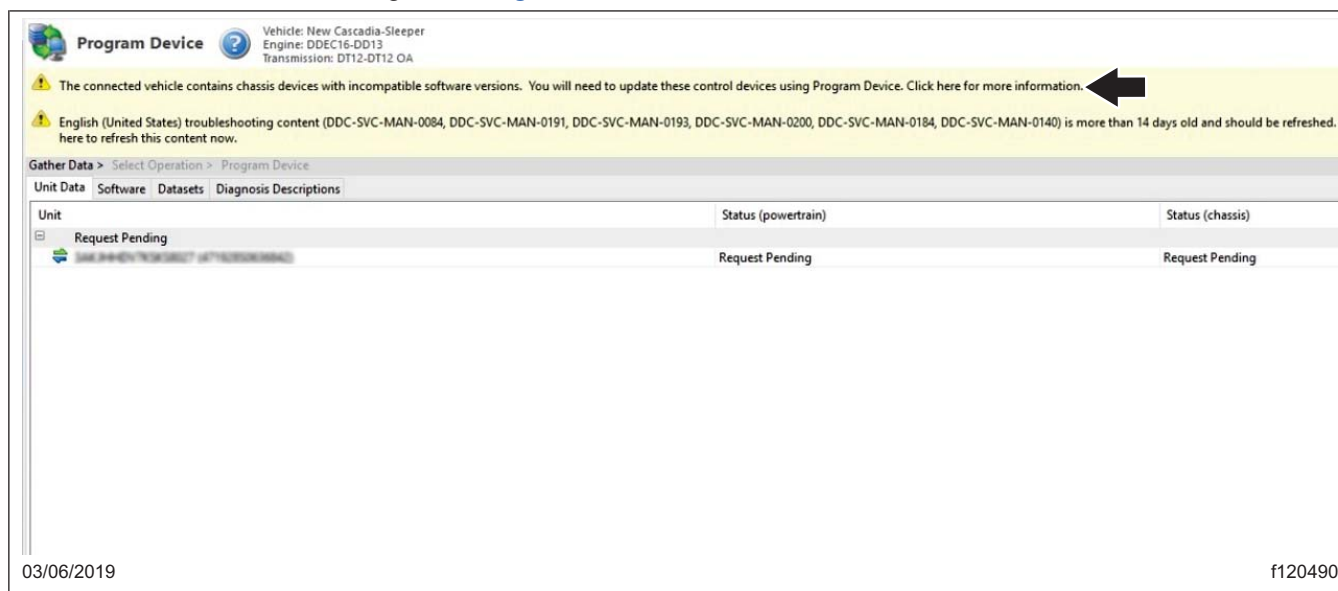

Fig. 3, Clicking on the Banner Message
11. Click on the banner message. See Fig. 3.